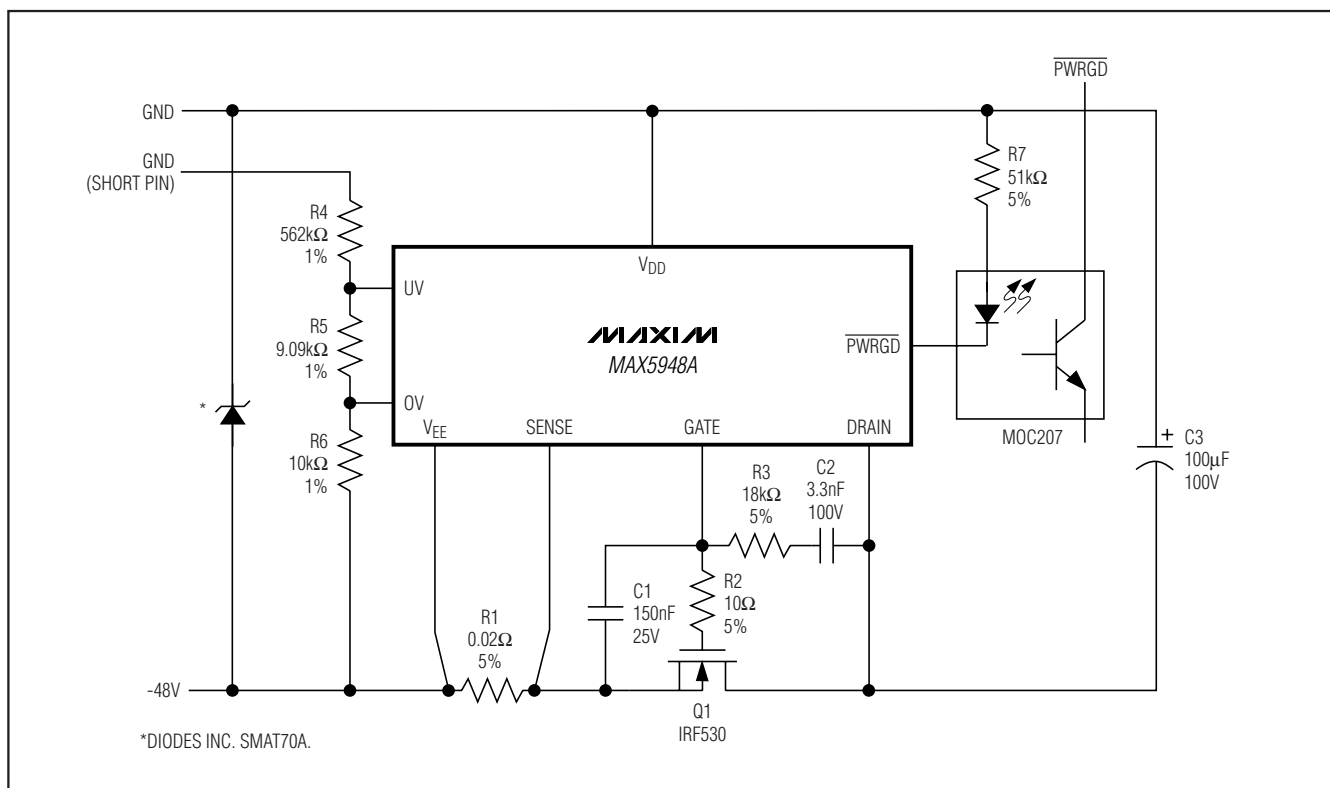

Figure 14. Using \overline{PWRGD} to Drive an Optoisolator
- If an optocoupler is utilized as in Figure 14, determine the LED series resistor: